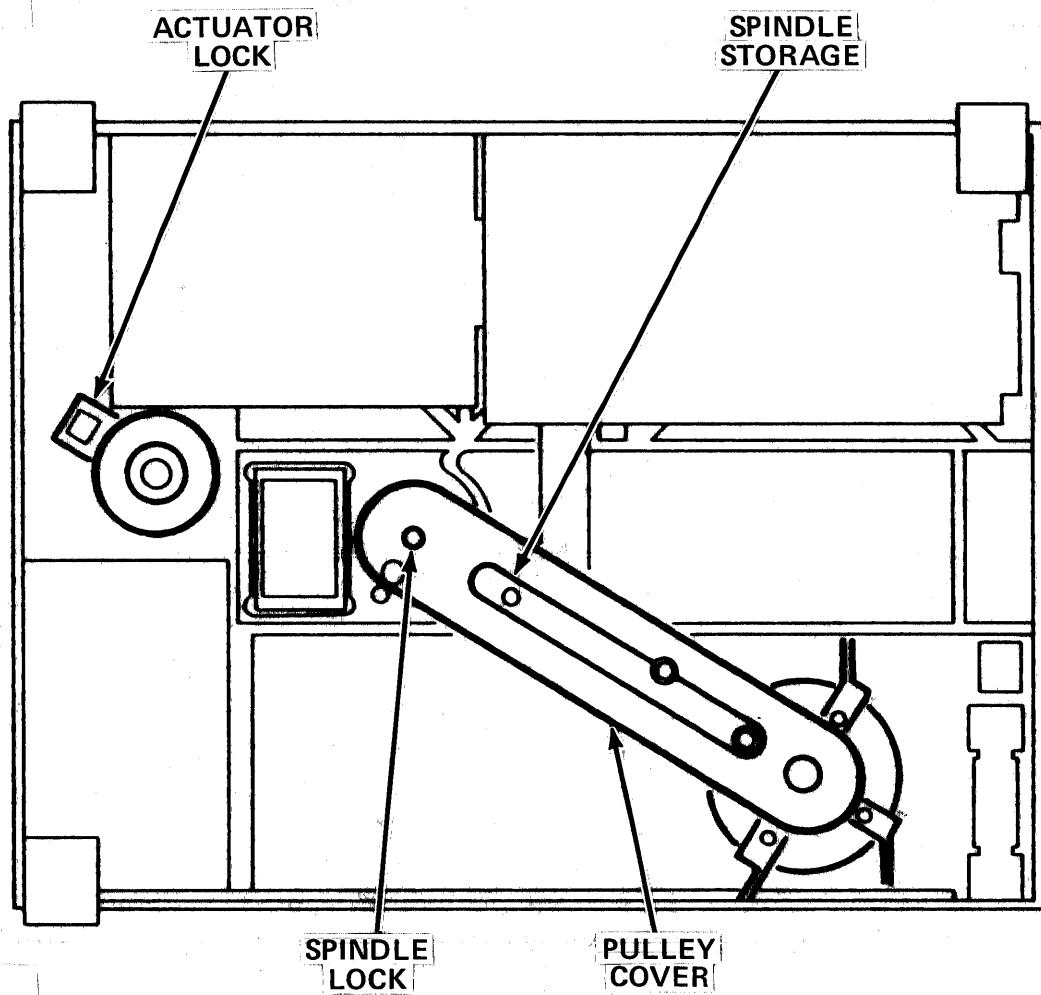

Figure 3-8: M26 Disk Drive (Spindle Lock and Actuator Lock)
NOTE: Before attempting to use any Morrow Designs software for the HDCA systems, be sure that the heads of the drives are unlocked. In the case of the M26, the spindle lock MUST be removed before power is applied (see Figure 3-8). After power is applied, the head (actuator) lock may be removed (see Figure 3-8). The M10 and M20 drives should be powered up and then the heads unlocked. Also note that the M26 drive takes as long as 2 1/2 minutes to become ready upon power-up. The M10/M20 drives require (on the average) 45 seconds to become ready.
2. Remove the cover, then unscrew the 4-40 x 9/16" spindle locking screw in the direction indicated by the yellow label in the drive pulley area (refer to Figure 3-8). This screw MUST be removed BEFORE applying power to the drive.
3. Place the external star washer and the spindle screw in the designated storage slot (again, refer to Figure 3-8). Replace the pulley cover.
6. With disk drive power ON, remove the "U-shaped" actuator lock (see Figure 3-8). Retain this lock for re-installation prior to transporting the drive.